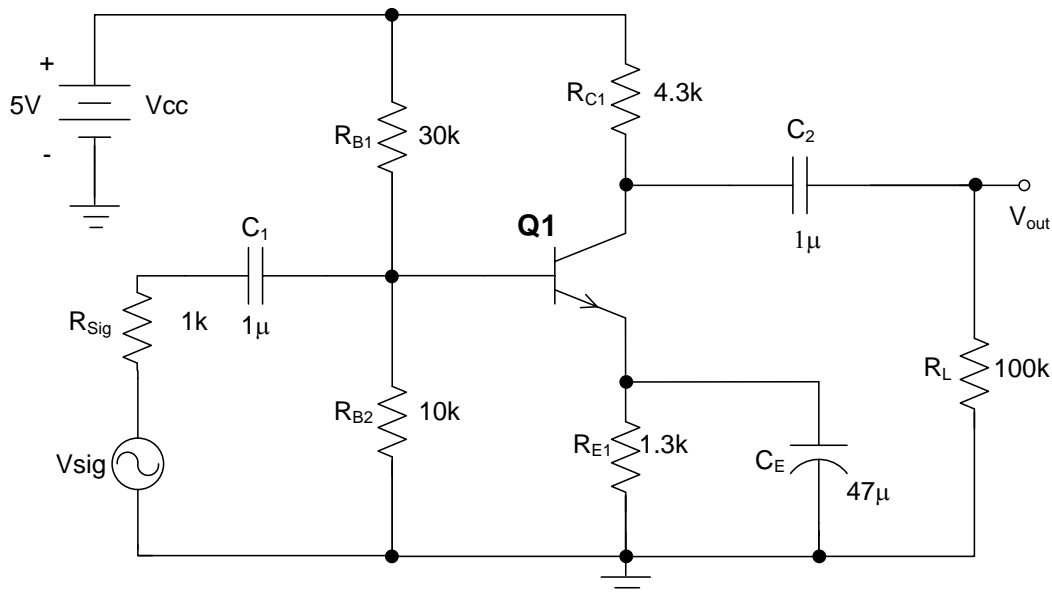

Figure 1: Common Emitter amplifier
A typical common emitter (CE) amplifier is shown in Figure 1.